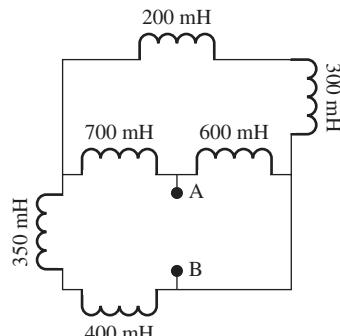

FIGURE P4.46 Inductor network.
- 4.46 (H)** Find the equivalent inductance across points A and B in Figure P4.46.